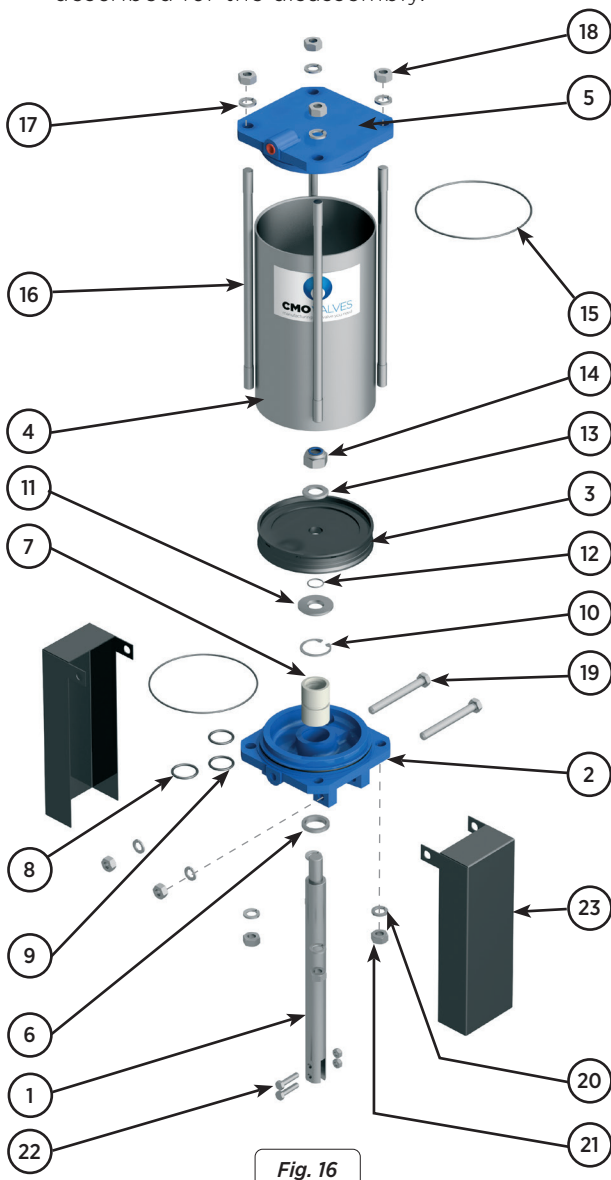

Fig. 16
- 5.- Carefully clean the channel for the seals. Ensure that it is clean of any excess or waste in order to fit the new seal strips (10) correctly.
- 6.- Position the new seal strips (10) in their location. The new seal must also comply with the dimensions and characteristics necessary for the damper butterfly.
- 7.- Cut both seal strips (10) to ensure they are flush with the half-moon rims (fig. 16).
The pneumatic cylinders in our valves are manufactured and assembled at our premises. The maintenance of these cylinders is simple, if your need to replace any elements and you have any questions please consult **CMO Valves**. In single-acting spring-return actuators, do not manipulate the actuator as it contains high preload springs. Contact **CMO Valves**. Below is an exploded diagram of the pneumatic actuator (fig. 16) and a list of the cylinder's components (table 2). The top cover and the support cover are usually made of aluminium, but from pneumatic cylinders greater than Ø200 mm, they are made of cast ductile iron.